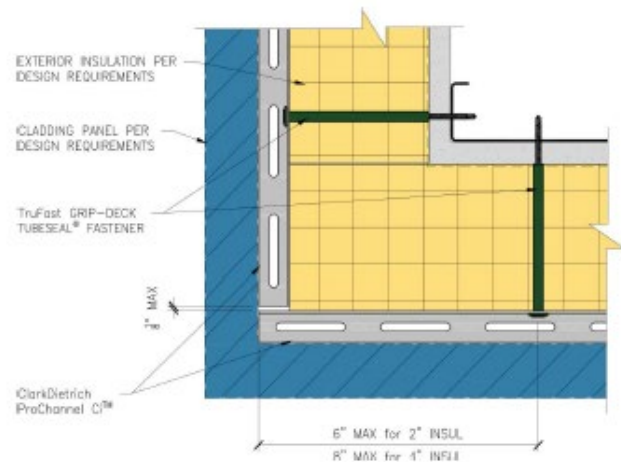

Figure 4
Step 5 For Inside or outside corners, the ProChannel Ci may cantilever past the last fastening point; but it is recommended to stay within 6 inches for 2" insulation or 8 inches for 4" insulation from the corners. (see Fig. 4 and Figure 5 for details).